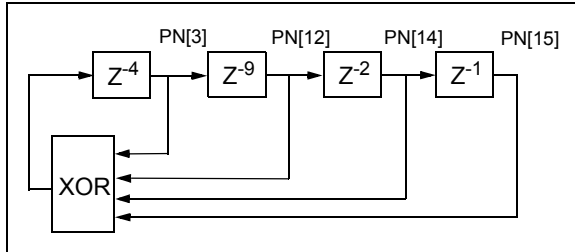

FIGURE 4-20: Block Diagram of 16-bit LFSR for Pseudo-Random Number (PN) Sequence for Output Test Pattern.
4.9.12.1 Pseudo-Random Number (PN) Sequence Output
When TEST_PATTERNS<2:0> = 111, the device outputs a pseudo-random number (PN) sequence which is defined by the polynomial of degree 16, as shown in Equation 4-7. Figure 4-20 shows the block diagram of a 16-bit Linear Feedback Shift Register (LFSR) for the PN sequence.